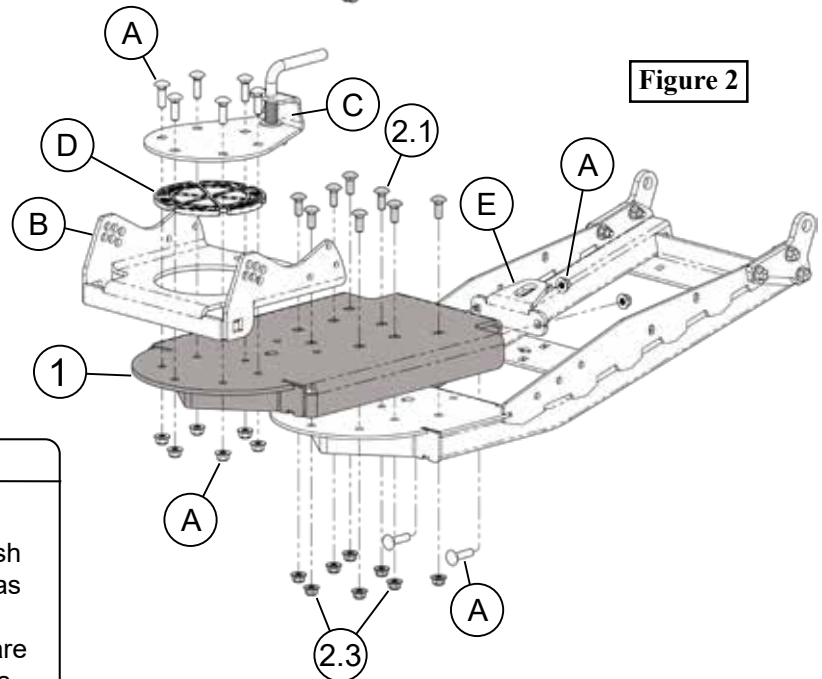

Figure 2
3. Install the UPPER (A), MIDDLE (B) and LOWER (C) brackets to the side shield using the 1" carriage bolts and nuts. See **Figure 2** for bracket difference chart. Side Shield has a notch (D) that indicates the bottom. This notch allows clearance for the wear bar. See **Figure 3** for proper right and left install.
“Figure 2 Bracket Difference Chart”
2. Reinstall pivot bushing (D), lift latch assembly (C), cradle (B), and cable hook bracket (E) using hardware (A) removed in step 1 onto UTV Track Extension (1) as shown in **Figure 2**.
3. Install UTV Track Extension (1) onto push tubes using bolts (2.1) and nuts (2.3) as shown in **Figure 2**. **NOTE:** If the push tube does not have rear holes, drilling is required. See **Drilling Note Below**.